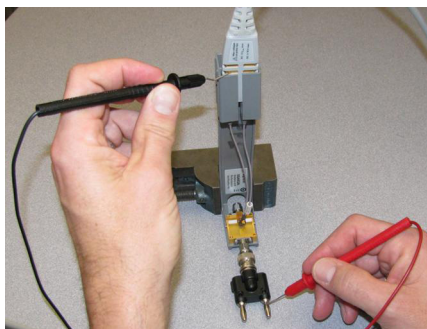

Figure 100 Measuring the Single-Ended Input Resistance the Solder-In Probe Head
- 7 To measure the single-ended input resistance, measure the resistance between the signal plug of the banana adapter and the probe amplifier ground, which can be accessed as shown in **Figure 100** (through the vent window of the probe amplifier).